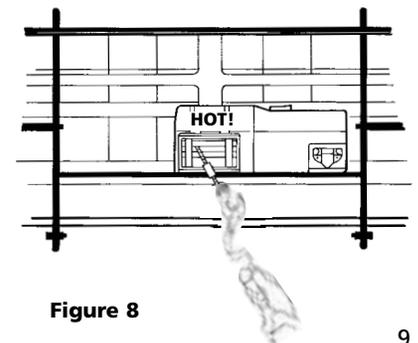

Figure 8
- ▲ WARNING** *The drum and wire rope may get very hot (Figure 8).*